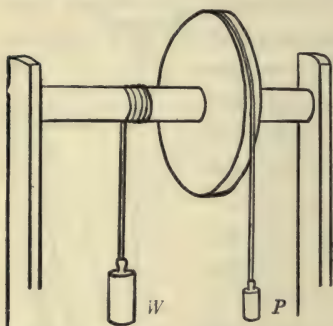

FIG. 173. — The wheel and axle.
**Application. Windlass, cog-wheels.** — In the old-fashioned windlass used in farming districts, the large wheel (Fig. 173) is replaced by a handle which, when turned, describes a circle. Such an arrangement is equivalent
**Wheel and axle.** — The wheel and axle consists of a large wheel and a small axle so fastened that they rotate together (Fig. 173).